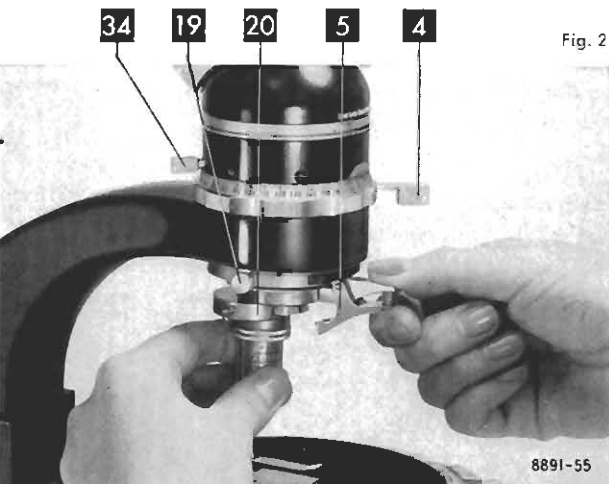

Fig. 2
fig. 2). If an objective centring clutch (5) is supplied instead of a revolving nosepiece, this is attached to the stand in the same manner. The objectives will be found in the accessories case at one side of the microscope cabinet and are screwed into centring objective changing rings (20, fig. 2). Figure 2 illustrates the method of inserting the objectives in the centring clutch.